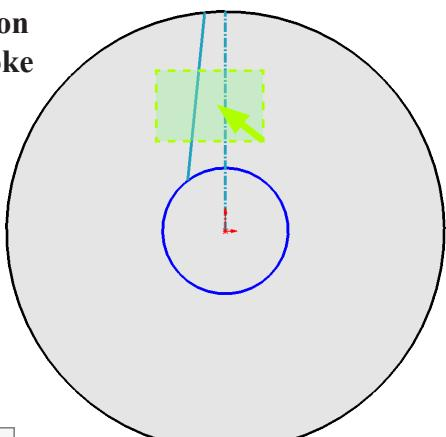

Fig. 10
Step 11. Ctrl drag a selection to left to select spoke geometry, Fig. 10.